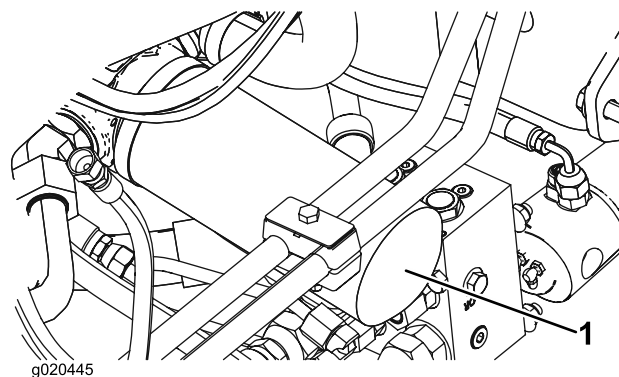

Figure 73
2. Clean the area around the filter mounting areas. Place a drain pan under the filter and remove the filter (Figure 73).